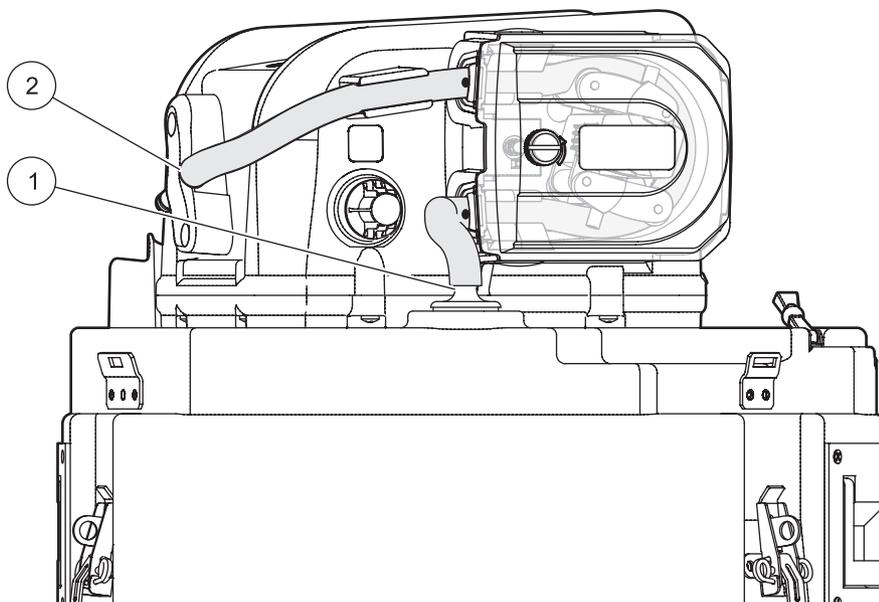

Figure 26 Pump tube installed
6. Connect the open tube end to the tube fitting on the sampler (Figure 26).